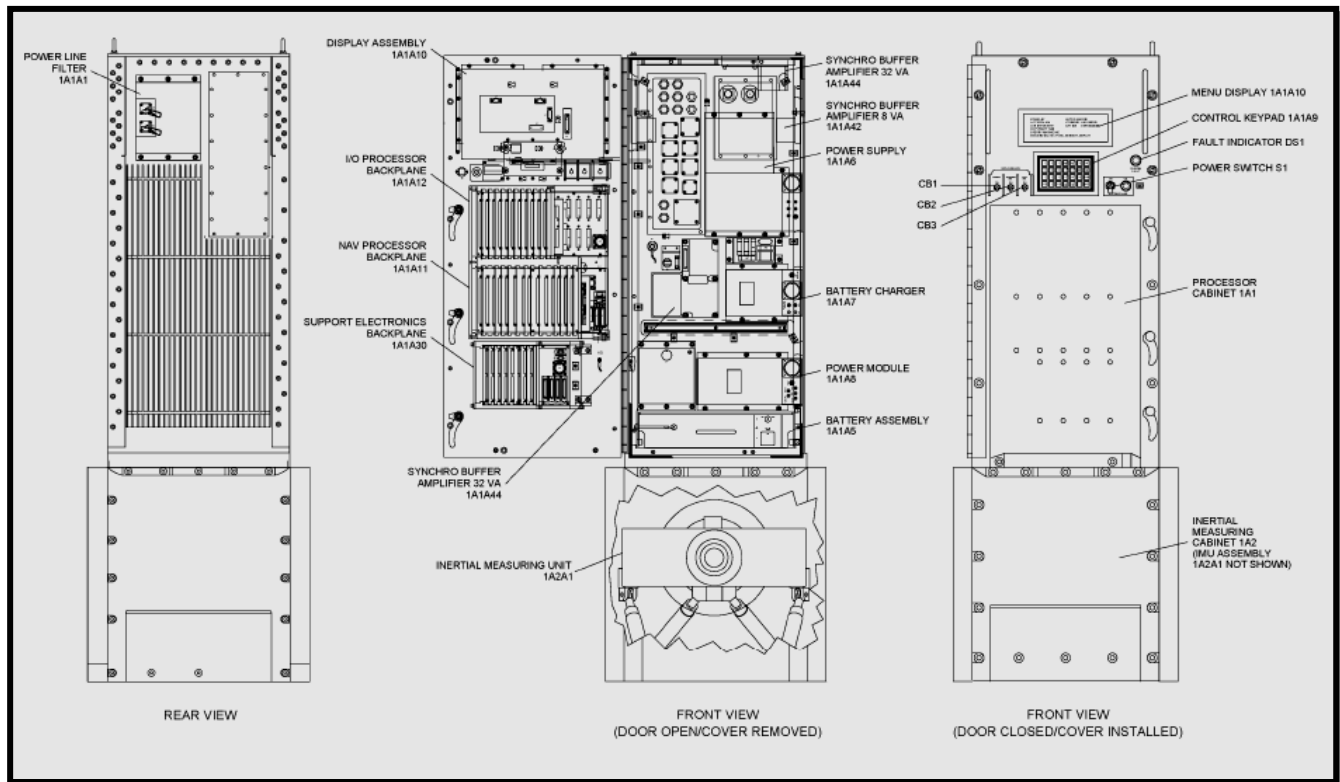

Figure 4-50.— PART NUMBERS CN-1695/WSN-7(V), CN-1696/WSN-7(V), and CN-1697/WSN-7(V).
The AN/WSN-7(V) Ring Laser Gyro Navigator (RLGN) (Figure 4-50) is part of the AN/WSN-7(V) INS. Each RLGN is a self-contained unit that employs an Inertial Measuring Unit (IMU) using three single-axis Ring Laser Gyros (RLGs) and three accelerometers as the inertial reference to determine ship's position, velocity, heading, roll and pitch. The system continuously accepts ship's speed information from a speed log and/or Global Positioning System (GPS), and periodically accepts ship's position information from an external navigation reference (GPS), manually via a keypad and display on the RLGN control panels, or from the IP-1747/WSN Control Display Unit (CDU).